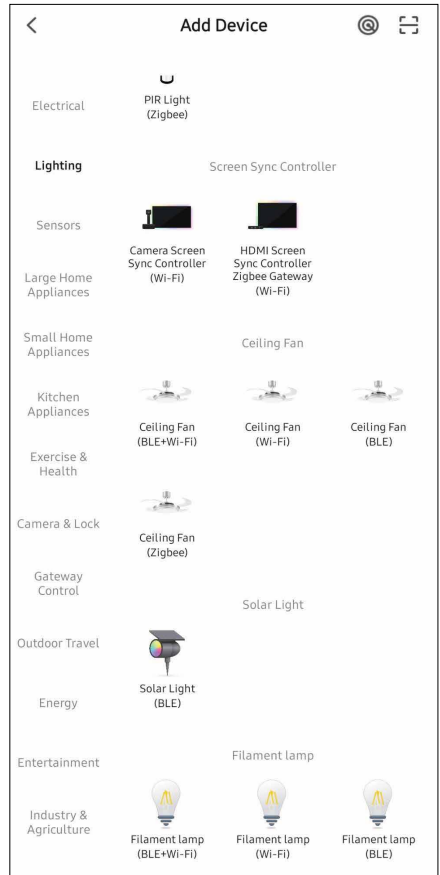

Figure 14
- 4 Scroll down and select 'Ceiling Fan (Wi-Fi)'. (Fig.14)